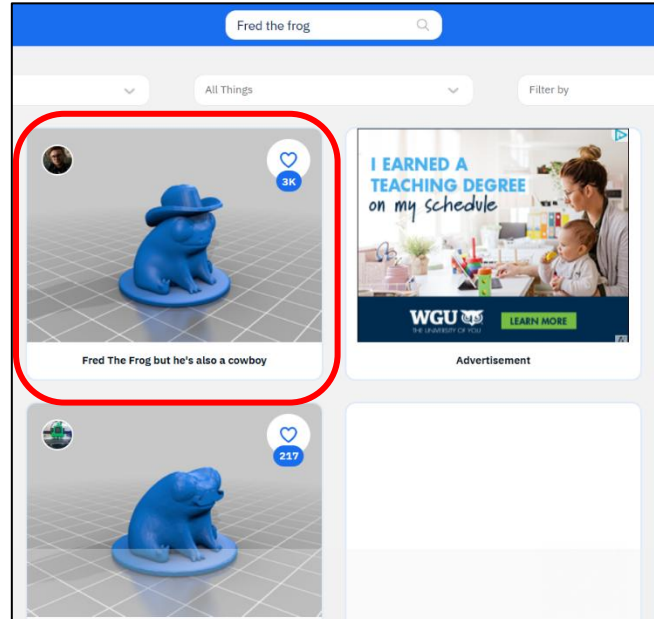

Figure 5: Example of Thingiverse search results.
- 5) Select a model that matches your criteria. (Figure 5)